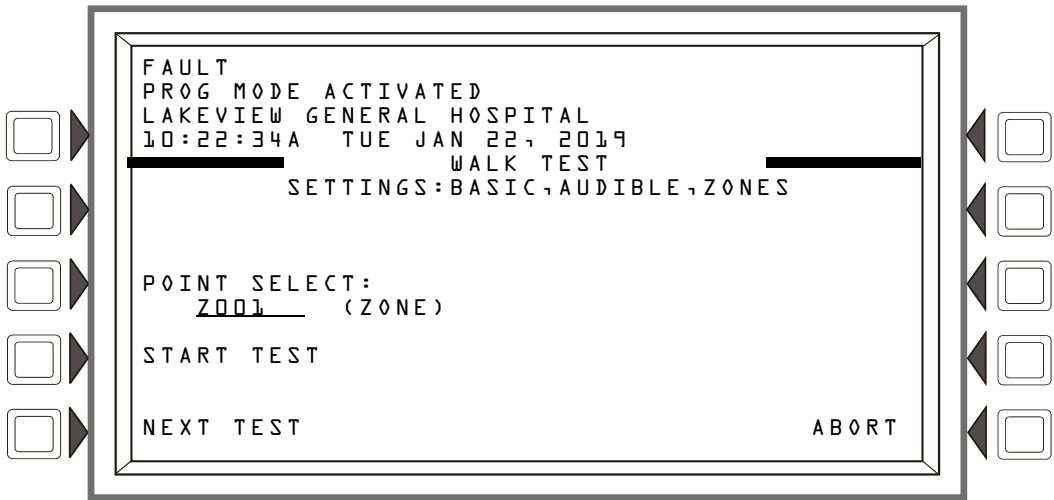

Figure 2.14 Zone Walk Test Selection Screen
**PARAMETER**: Press to scroll through the choices. Stop at the desired parameter. Choosing the loops parameter will bring up the Walk Test loops programming screen. (Refer to Figure 2.10.) Choosing the Zone parameter will bring up the Zone Walk Test screen. (Refer to Figure 2.14.) Choosing the Devices parameter will bring up the Devices Walk Test screen (Refer to Figure 2.11.)